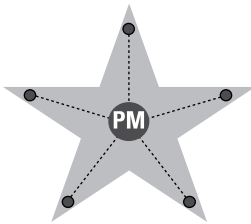

Figure 9-1: The star.
- The star:** This option is where the Project Manager is in absolute control and all communications must be through him. It means that the Project Manager knows exactly what is going on all the time, but it has high overheads and can lead to the project staff feeling disempowered. Figure 9-1 shows the star.